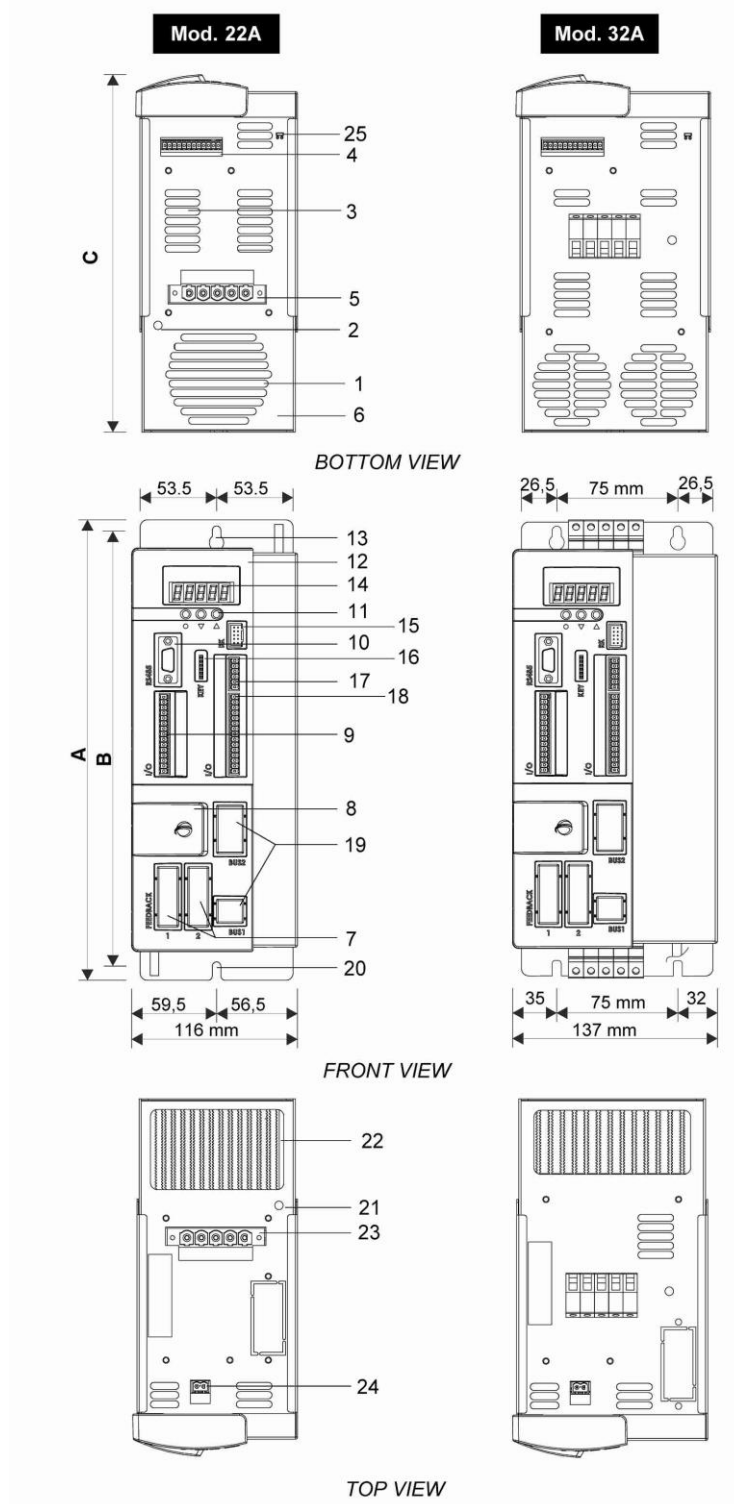
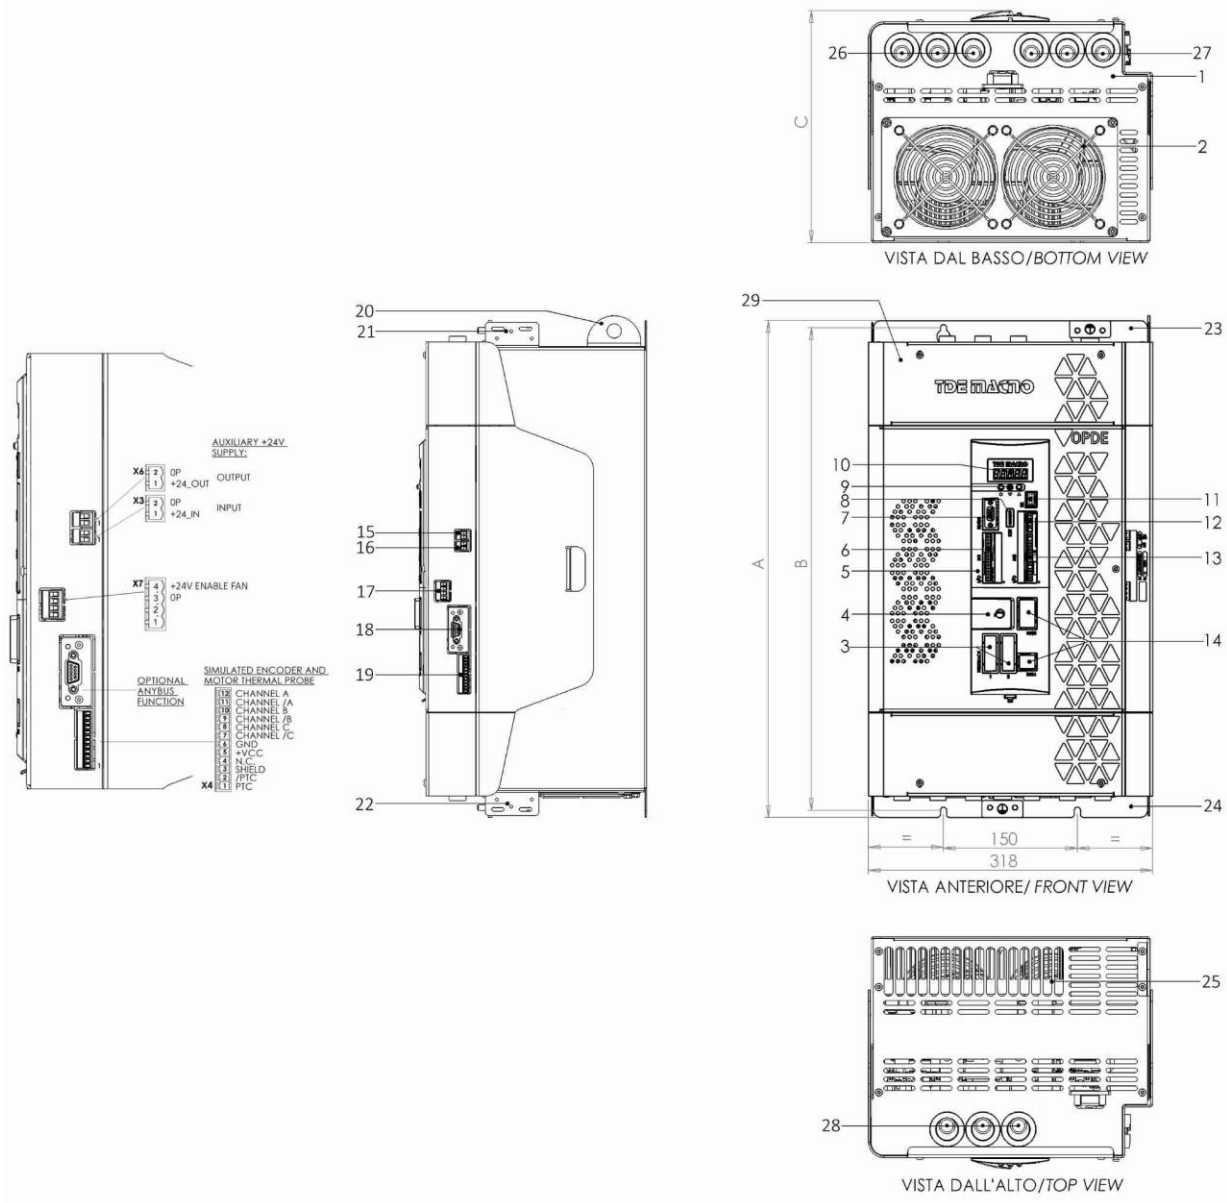

FIG. 3 – Name of the components OPDE SD 22 and 32
FIG. 5 – Name of the components OPDE SD 70, 90, 110 and 150
FIG. 3, FIG. 4, FIG. 5, FIG. 6, FIG. 7, TAB. 3A, TAB. 3B, TAB. 3C, TAB. 3D, TAB. 3E represent and show the names of the main components and the overall dimensions of the OPDE DC-DC converter.
**LEGEND FIG. 5:**